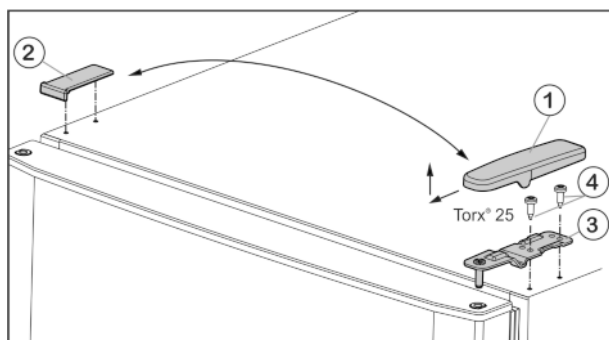

Fig. 6
- Pull the cover Fig. 6 (1) forwards and upwards.
- Lift off the cover Fig. 6 (2).
- Unscrew top bearing block Fig. 6 (3) (2x Torx® 25) Fig. 6 (4) and lift off in upward direction.
- ▶ Install the upper bearing block *Fig. 6 (3)* on the new hinge side and in the door.
- ▶ Screw in the upper bearing block **tightly (with 4 Nm)** (2x Torx® 25) *Fig. 6 (4)*. Use a cordless screwdriver if necessary.
- ▶ Slide on the cover *Fig. 6 (1)* on the opposite side from the outside and snap it into place.
- ▶ Slide on the cover *Fig. 6 (2)* on the opposite side from above until it snaps into place.